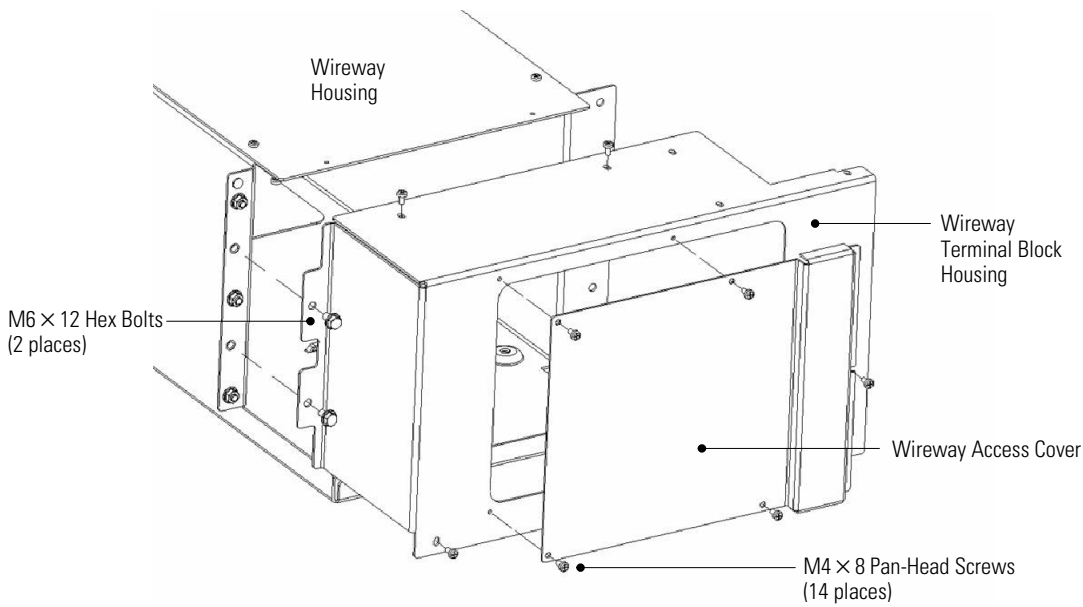
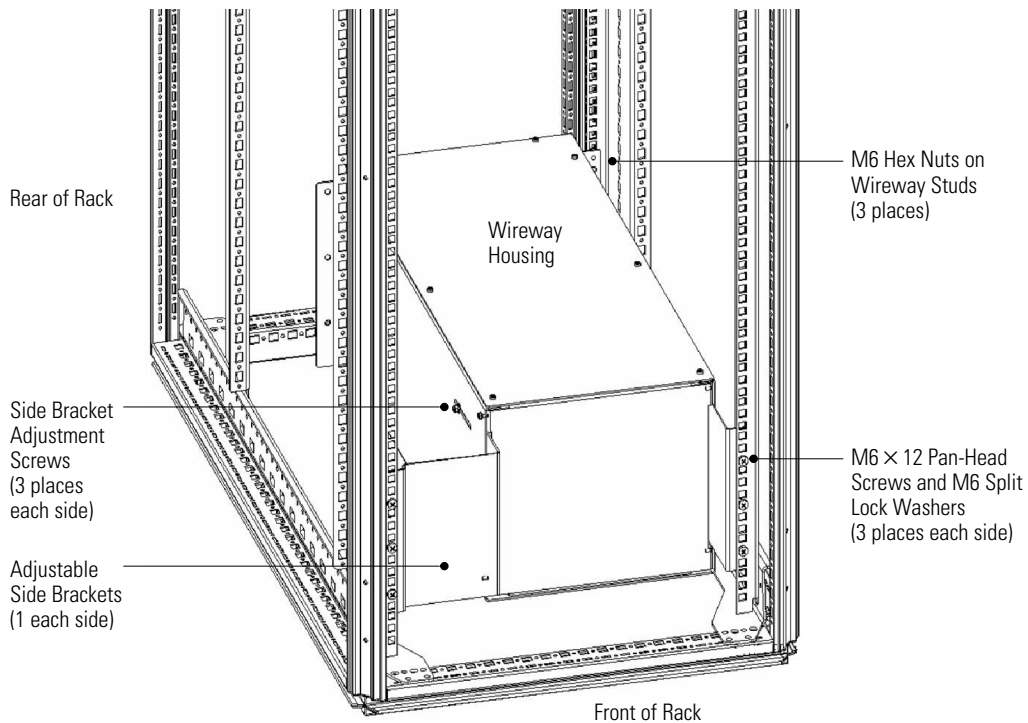

Figure 2. Wireway Disassembly
Figure 3. Wireway Installation
1. Remove the access cover and terminal block housing from the wireway housing (see Figure 2). Retain the wireway terminal block housing, wireway access cover, and screws. Leave the two side brackets installed on the wireway housing (see side bracket locations in Figure 3).
3. Place the wireway housing into the bottom of the rack so that the adjustable side brackets are at the front of the rack (see Figure 3).